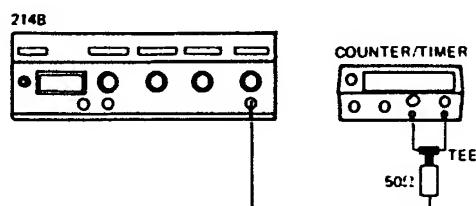

Figure 4-7
6. Change Test Setup as shown in Figure 4-7 and set 214B controls as follows: